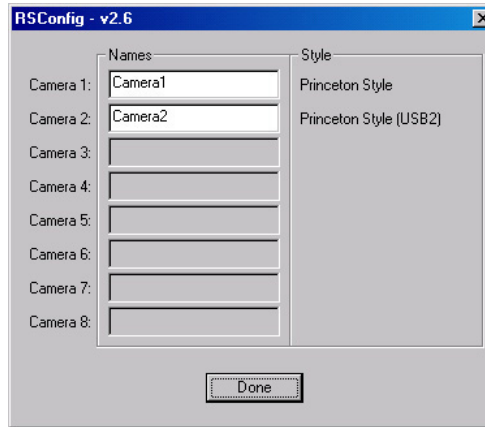

Figure 101. RSConfig dialog: Two Camera Styles
4. When the RSConfig dialog (Figure 101) appears, you can change the camera name to one that is more specific or you can keep the default name "Camera2". When you have finished, click on the **Done** button. You will next edit the generated PVCAM.INI file.